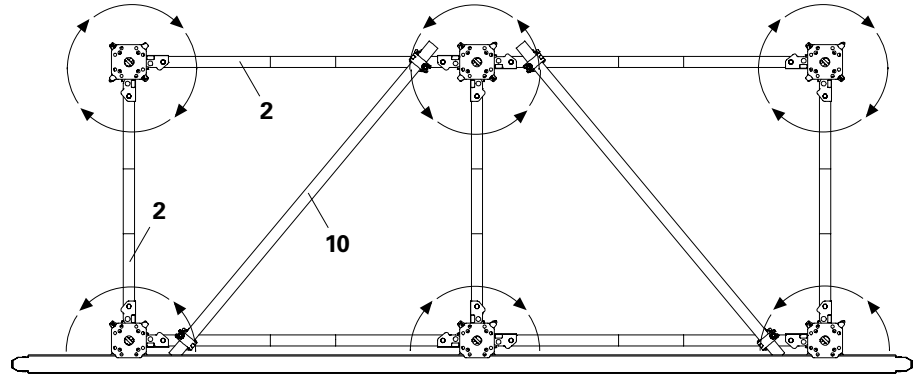

Fig. A3.06
- The Frames MRK (2) must be installed in a consistent “windmill” design.
- The assemblies are to be braced with diagonally-positioned scaffold tubes Ø 48.3 (10) at around half the tower height. (Fig. A3.06)